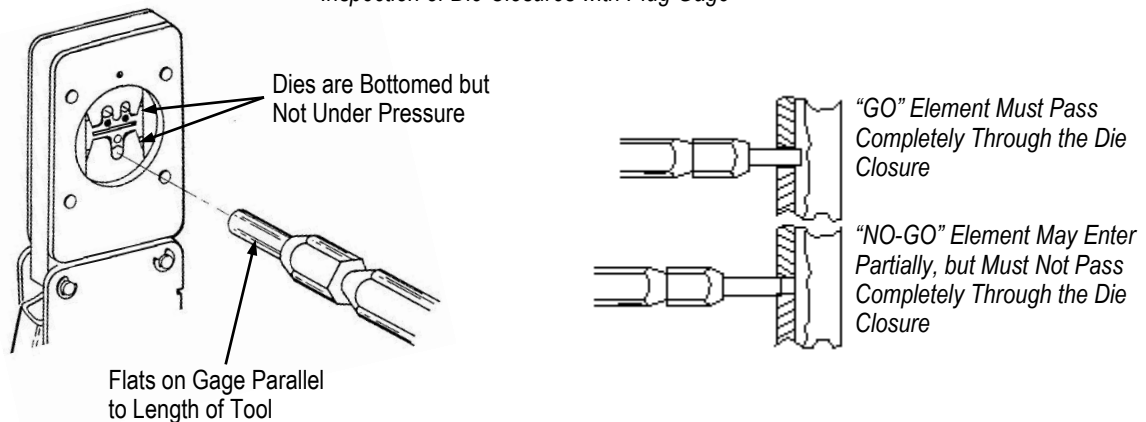

Figure 6
3. With crimping dies bottomed, check the selected die closure using the proper plug gage. Hold gage in straight alignment with the die closure and carefully try to insert, without forcing, the GO element. See Figure 6. The GO element must pass completely through the die closure. See Figure 6.
4. Try to insert the NO-GO element. The NO-GO element may enter partially, but must not pass completely through the die closure. See Figure 6.